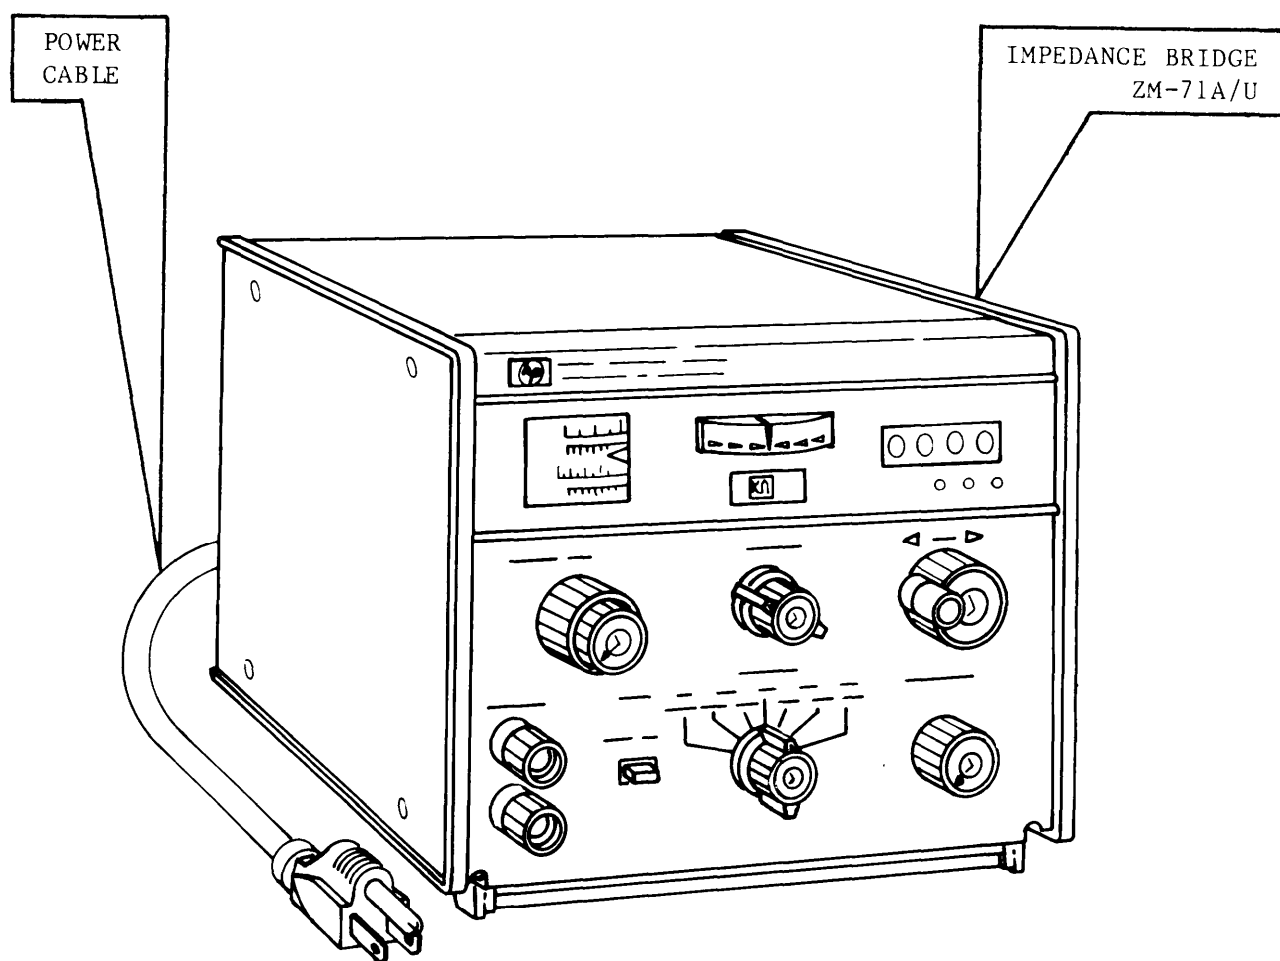

Figure 1-1. Impedance Bridge ZM-71A/U, front view.
This manual describes Impedance Bridge ZM-71A/U (fig. 1-1) and provides operation and maintenance instructions. The ZM-71A/U is designed to make fast, easy measurements of resistance (R), capacitance (C), inductance (L), capacitor dissipation factor (D), or inductance quality factor (Q).